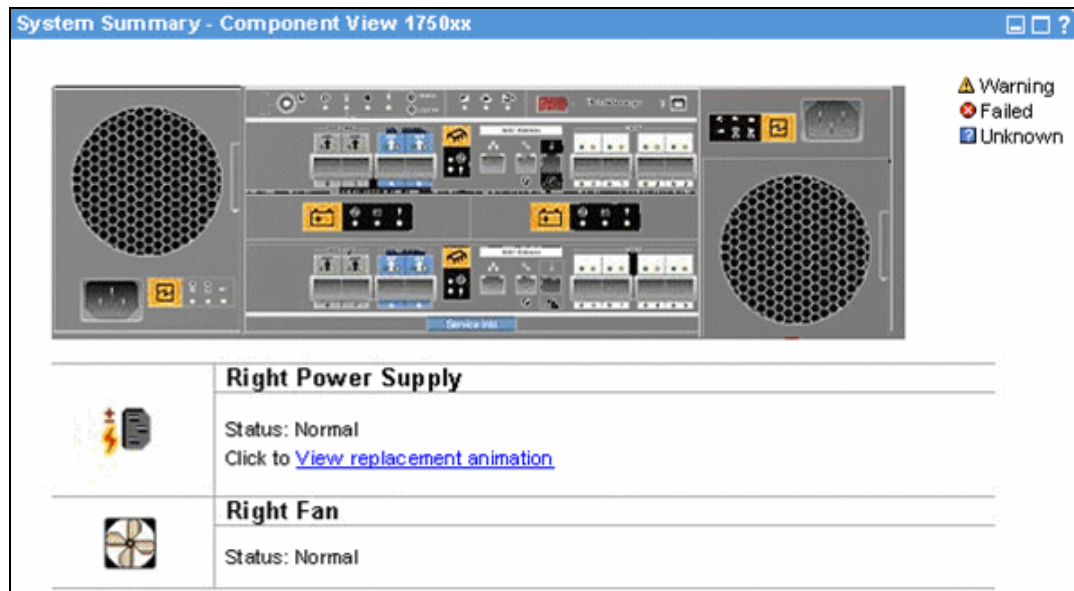

Figure 3-8 Power supply replaced
3. Finally, the user checks the component view to review system health after the repair. An example of this is shown in Figure 3-8. In this example we can see that all the components displayed are *normal*.